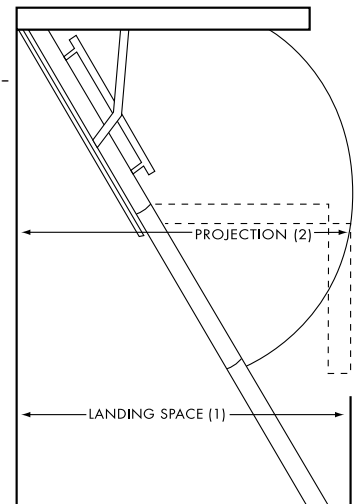

FIGURE 1 - WOOD STAIRWAYS
B. Allow sufficient area for a safe landing space at the bottom of the stairway. Be sure there is enough clearance for the swing of the stair as it is being unfolded to its full length (see FIGURE 1 for "landing space" and "projection"; match the ceiling heights shown on the packing carton with the same ceiling height in TABLE A to determine proper landing space and projection requirements). Visit [www.youtube.com/user/centuryatticstair](http://www.youtube.com/user/centuryatticstair) to see how to properly verify all measurements.